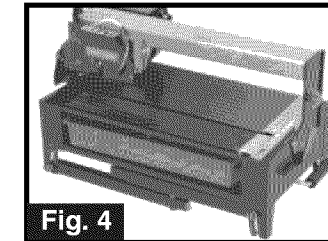

Fig. 4
4. Lay tool on a level surface (Fig. 4).